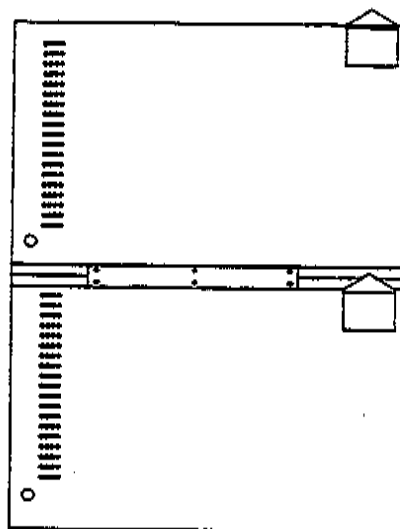

FIGURE 11
8. Place tie bracket (P/N 1175058) on rear of unit. Line up holes in the tie bracket with holes in rear of unit. (Refer to figure 11)